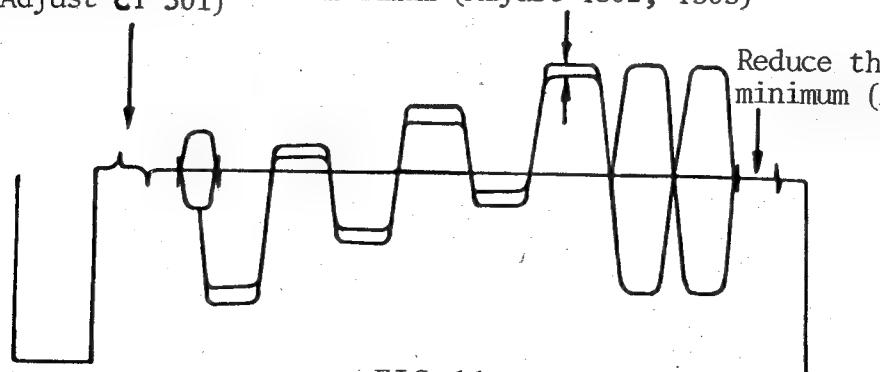

FIG. 11
5. Adjust CT 301 to obtain the waveform as in FIG. 11.
6. Adjust T 302, T 303 and VR 301 to obtain the waveform as in FIG. 11.